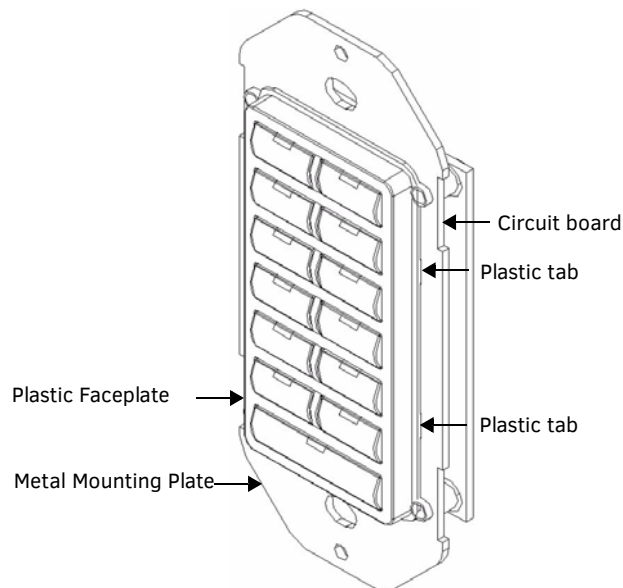

FIG. 11 Keypad assembly
The easiest way to remove and replace buttons on the Metreau keypads is to place the keypad assembly (FIG. 11) face-down on a flat level surface, so that the buttons stay in position until you are ready to remove them.
The Faceplate is attached to the Mounting Plate via four plastic tabs (two on each side of the Faceplate, as shown in FIG. 11). It is not necessary to remove the plastic faceplate from the Mounting Plate in order to replace buttons.
1. The faceplate is attached to the mounting plate via four plastic tabs (two on each side of the faceplate, see FIG. 11). To remove the faceplate, gently pry it from either side.